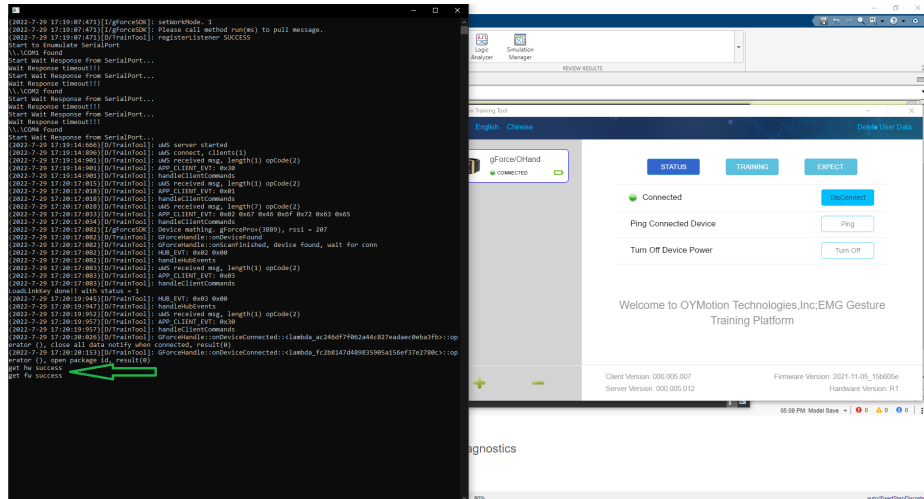

Figure 2: Device Connection
6. Connect from OTrain Application (Figure 2).